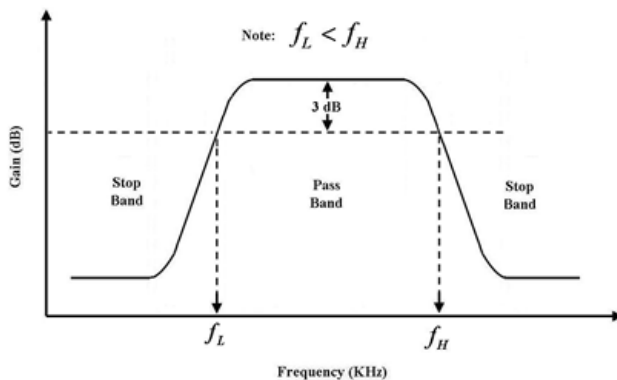

Figure 1: Frequency response of a band-pass filter
- Band pass filters have a frequency response as shown in figure 1. The difference between the two cut-off frequencies f_L (the lower cut-off) and f_H (the upper cut-off) is known as the bandwidth B_w .